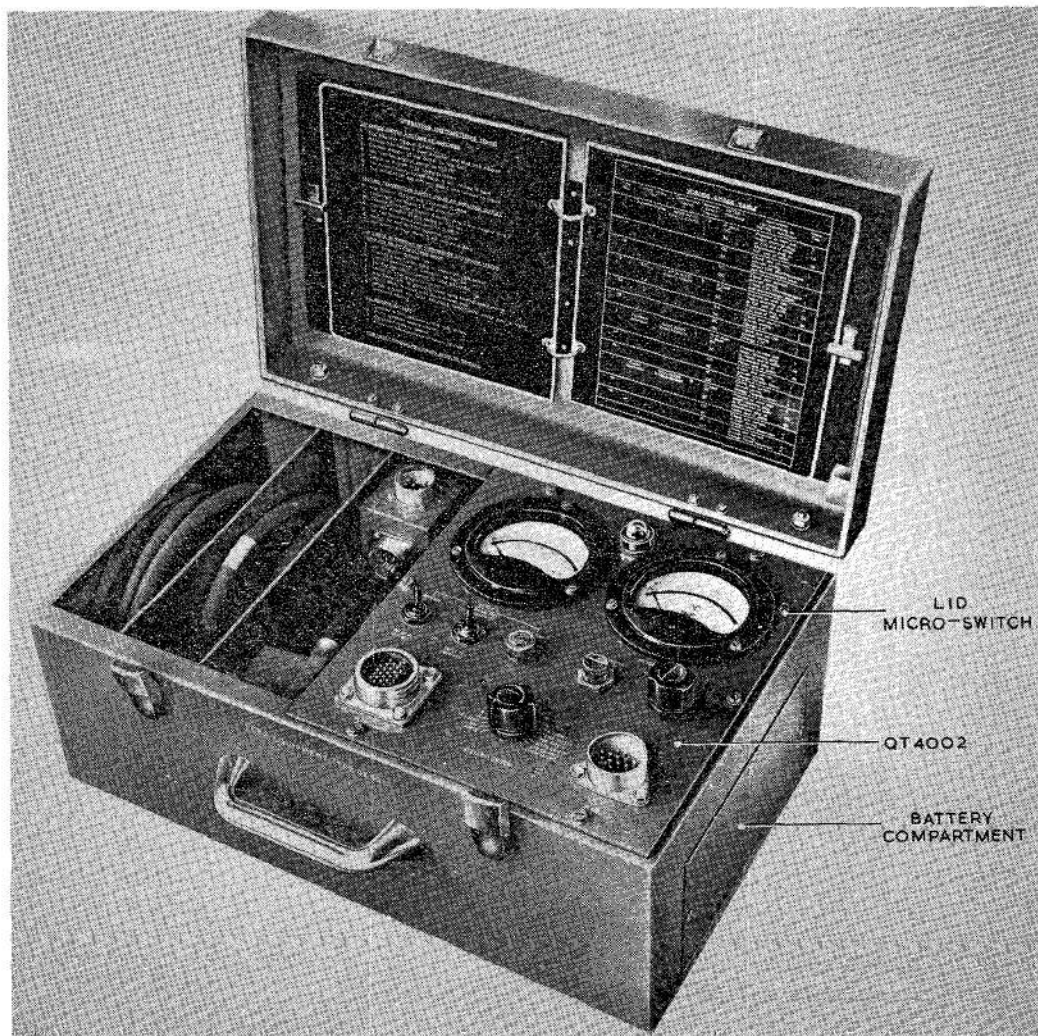

Fig. 1. Test equipment, Ultra, Type QE405
2. The test equipment, Ultra, Type QE405 (fig. 1) consists of the following units and ancillaries: —
3. The test set QT4002 is contained in a portable aluminium case with cable connectors and the other ancillaries housed in separate compartments. Metal instruction plates are mounted inside the hinged lid. The power supply battery is also contained in a separate compartment, the battery case and fuse holder being mounted to a panel secured by four quick release fasteners. This side-panel can be seen in fig. 1. A lid operated microswitch ensures that the battery supply is disconnected when the test set lid is closed. A 2-way connector facilitates removal of the battery, battery holder and fuse as a complete unit.